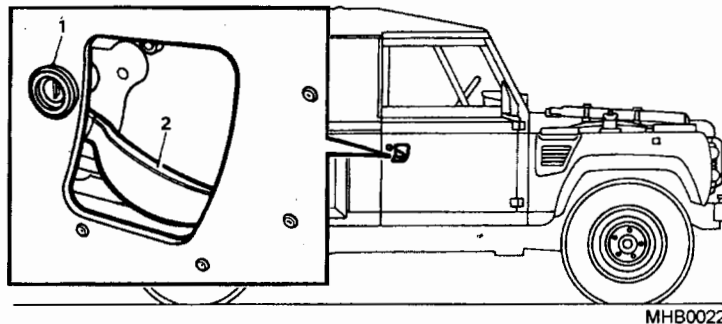

Fig 1 External door locks
3.1 Insert the key into the lock (Fig 1 (1)) and turn it towards the rear of the vehicle (a quarter turn), return the key to the vertical position and remove.